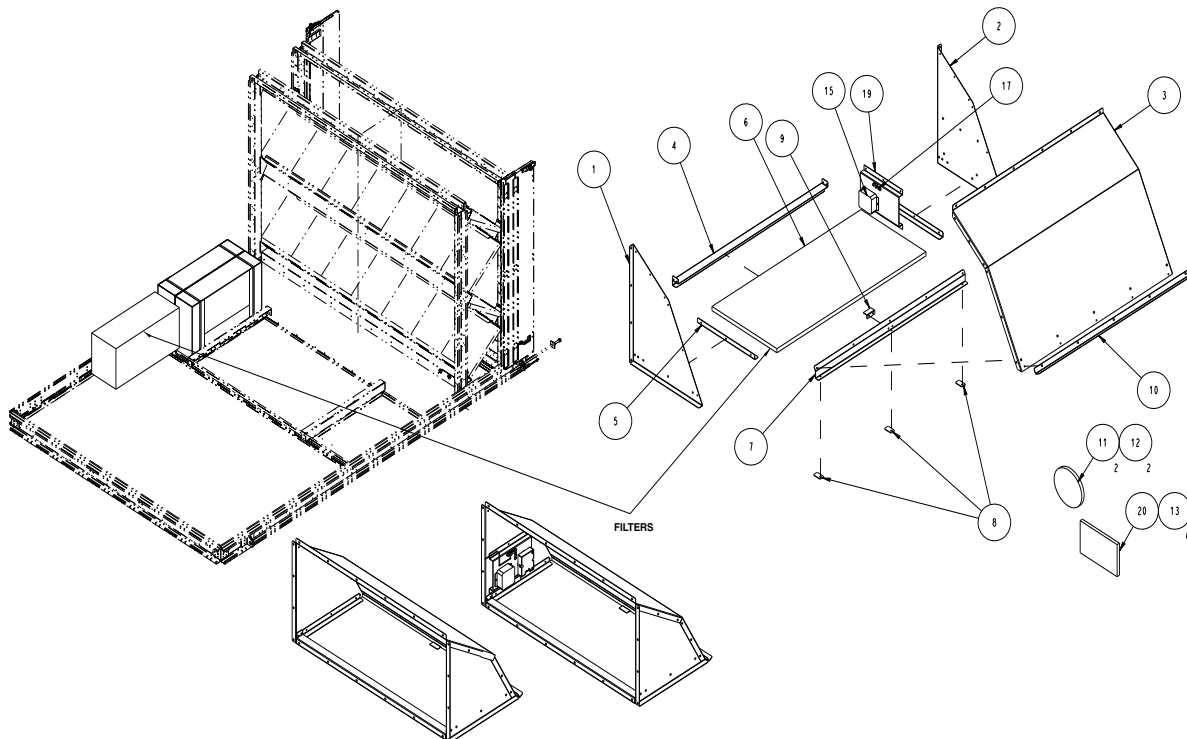

Fig. 30 — Hood Parts Detail; Filter Packaging Location
3. Assemble hoods. See Fig. 30.